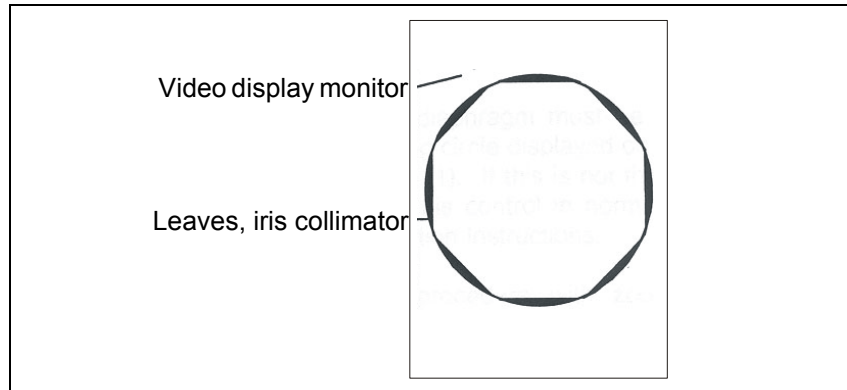

Fig. 14 Iris collimator leaves still visible in monitor
If all six of the iris diaphragm leaves are visible at the edge of the monitor (as shown in Fig. 14) then no further tests are required.
- All six of the iris diaphragm leaves must be visible at the edge of the monitor (as shown in Fig. 14). If this is not the case, then the iris control must be adjusted in normal mode, per the Service Manual.